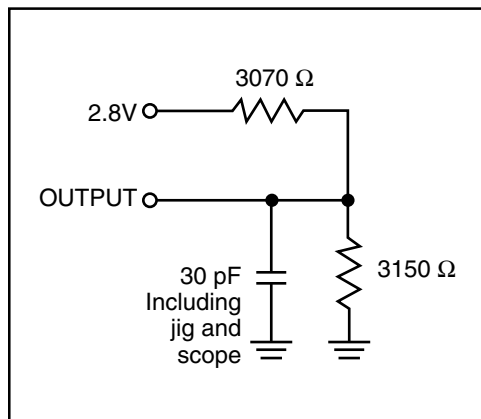

Figure 1
1. Test conditions assume signal transition times of 5 ns or less, timing reference levels of 1.3V, input pulse levels of 0.4V to 2.2V and output loading specified in Figure 1.
Output Load	See Figures 1 and 2